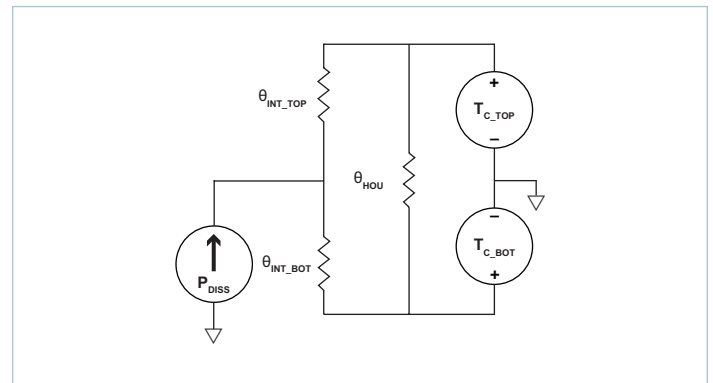
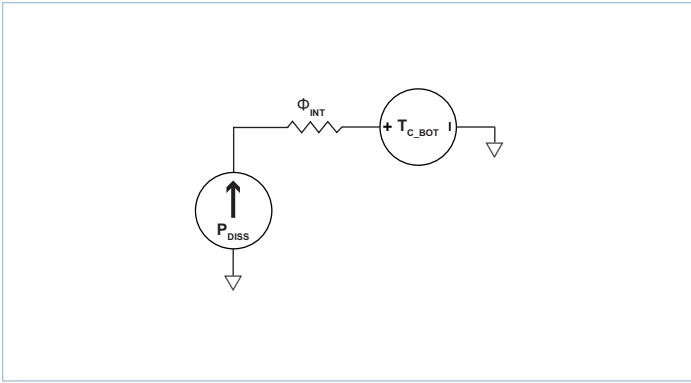

Figure 22 — Double-sided cooling VIA thermal model
Figure 23 — Single-sided cooling VIA thermal model
The VIA package provides effective conduction cooling from either of the two module surfaces. Heat may be removed from the top surface, the bottom surface or both. The extent to which these two surfaces are cooled is a key component for determining the maximum power that can be processed by a VIA, as can be seen from the specified thermal operating area in Figure 1. Since the VIA has a maximum internal temperature rating, it is necessary to estimate this internal temperature based on a system-level thermal solution. For this purpose, it is helpful to simplify the thermal solution into a roughly equivalent circuit where power dissipation is modeled as a current source, isothermal surface temperatures are represented as voltage sources and the thermal resistances are represented as resistors. Figure 22 shows the "thermal circuit" for the VIA module.
- **Single side cooling:** the model of Figure 22 can be simplified by calculating the parallel resistor network and using one simple thermal resistance number and the internal power dissipation curves; an example for bottom side cooling only is shown in Figure 23.